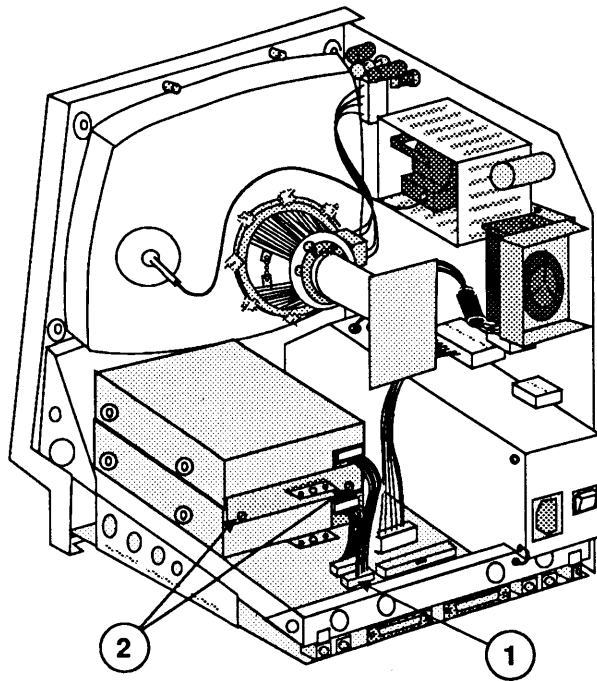

FIGURE 37
4. Disconnect the upper internal disk drive cable from connector J7 on the main logic board (Figure 37, #1).
5. Remove the two screws (Figure 37, #2) from the metal bracket that holds the two drive housings together. Lift off the metal bracket.